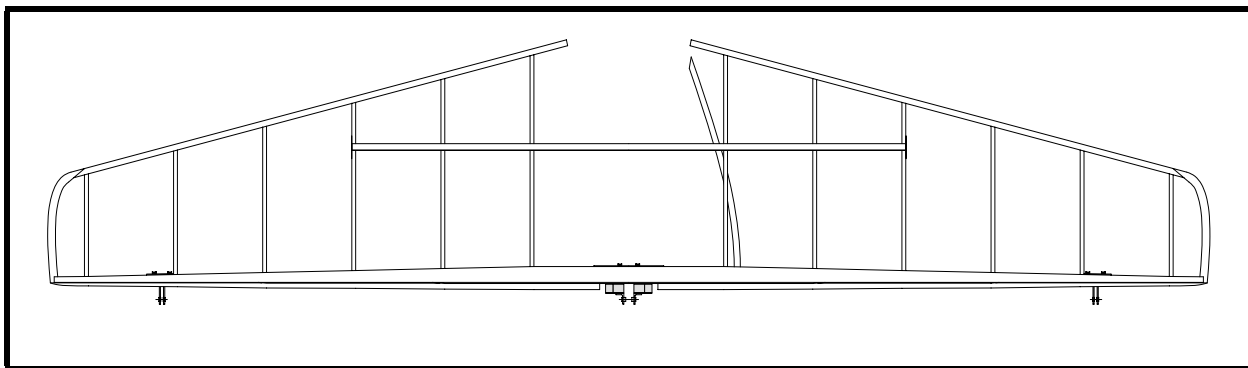

Figure 12
- ❑ Install the trim tab control cable tube in the horizontal stabilizer. See Figure 12. Bend the tube as required to fit in the intermediate rib and forward stabilizer spar. The aft end of the tube is flared to keep the tube from chafing the control cable. 3M 2216B/A epoxy is recommended. The “dry flox” is a mixture of flocked cotton with epoxy. First mix the epoxy. Brush the wet epoxy resin on all surfaces to be glued, and then mix the flocked cotton into the remaining resin until it becomes stiff. Putty around the trim tab control cable tube with a fillet of the dry flox. When hard, this material is quite strong.